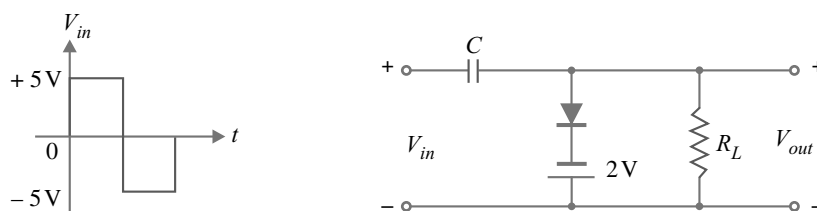

Fig. 16.66
**Example 16.24.** Sketch the output waveform for the circuit shown in Fig. 16.66. It is given that discharging time constant ( $= CR_L$ ) is much greater than the time period of input wave.